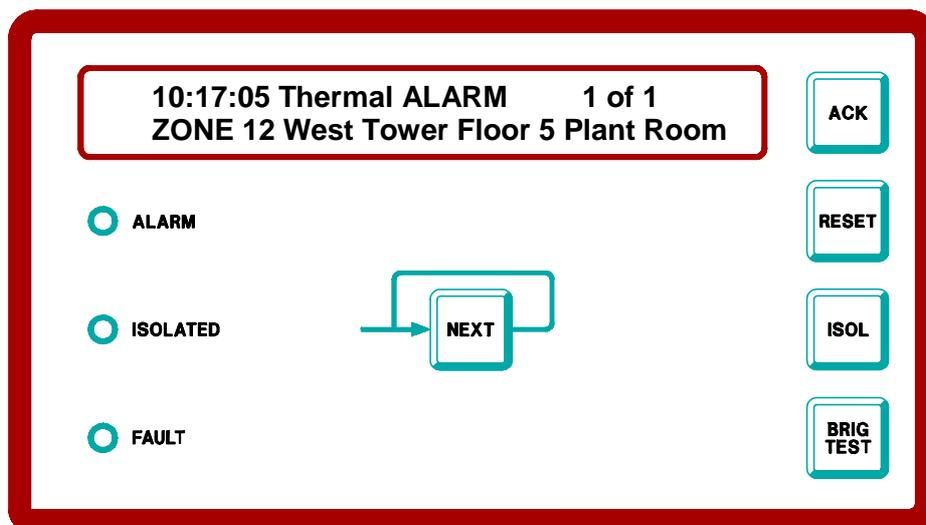

FIG 5.1
When an alarm occurs, the RDU switches from the base (or other) display to FFCIF mode and displays the alarm. The keys that can be used are then limited to those within the Fire Fighter's Control and Indicating Facility (FFCIF), plus the "PREV" key, the "CLEAR ESC" key and the "BELLS ISOL" key. The FFCIF is the area of the keypad within the red border, as shown in Figure 5.1.
- (iii) Whether the alarm is acknowledged or not (Figure 5.1 shows an unacknowledged alarm).